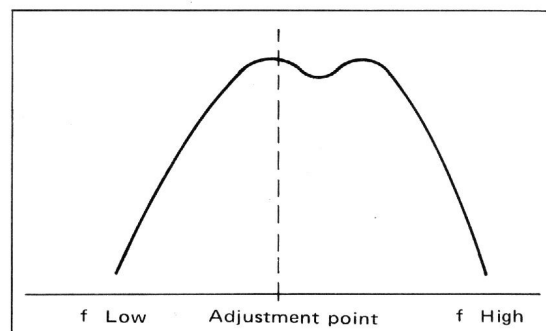

Fig. 1 S Meter Deflection
- (c) When input signal is swept in SSG mode, the S meter deflection appears as illustrated in Fig. 1.